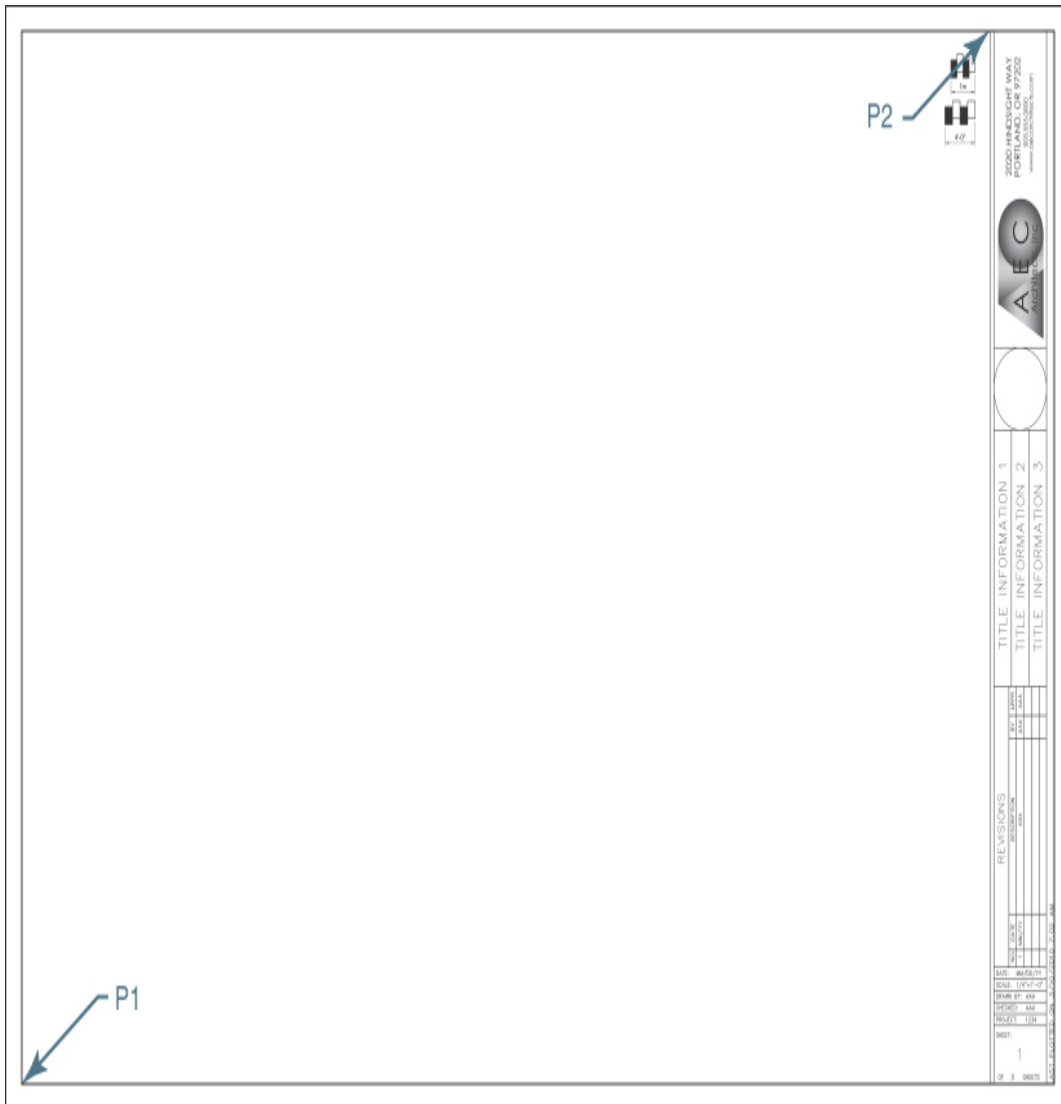

Figure 14-50
9. Create a rectangular viewport on layer **A-Anno-Vprt** at the inside border edges as shown in Figure 14-50.